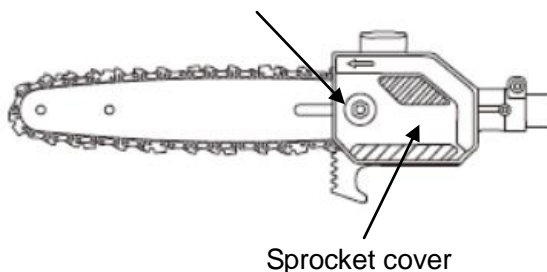

Fig. 24
3. Position the pole saw attachment on its side on a firm, flat surface so that the chain-sprocket cover faces upwards (Fig. 24).